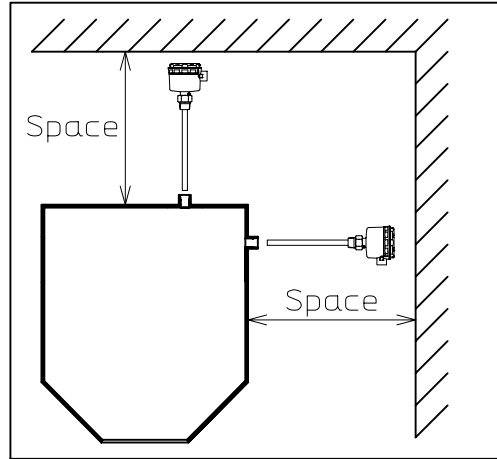

Fig.6-1
6.2.1 Before installing the sensor, provide ample space for installation, maintenance and inspection. Especially keep the enough overhead space for top mounting. This sensor shall be installed in an area which meets the following conditions. Refer to Figure 6-1.